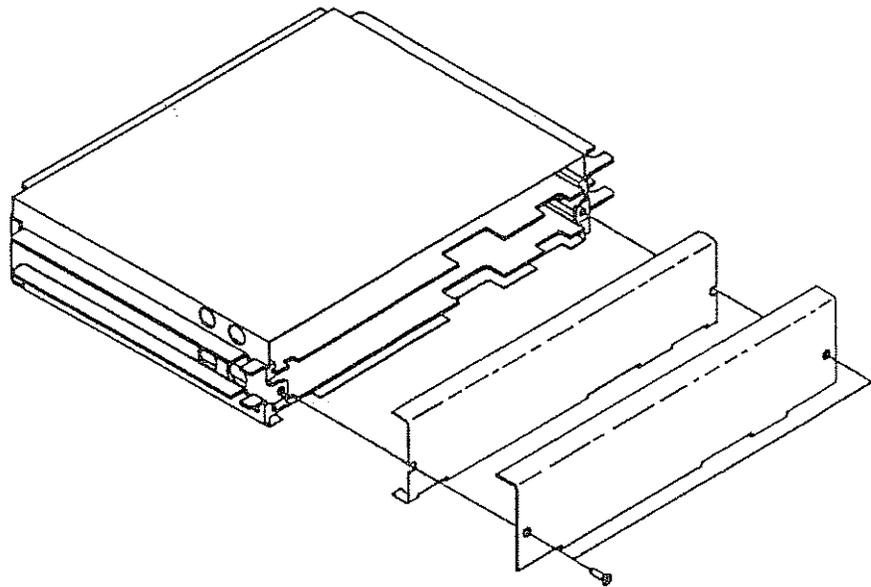

Figure 3-3. A6 Baseband Housing Shield Covers
5. Remove the two screws securing the covers to the A6 Baseband Boards Housing Assembly. Refer to figure 3-3.